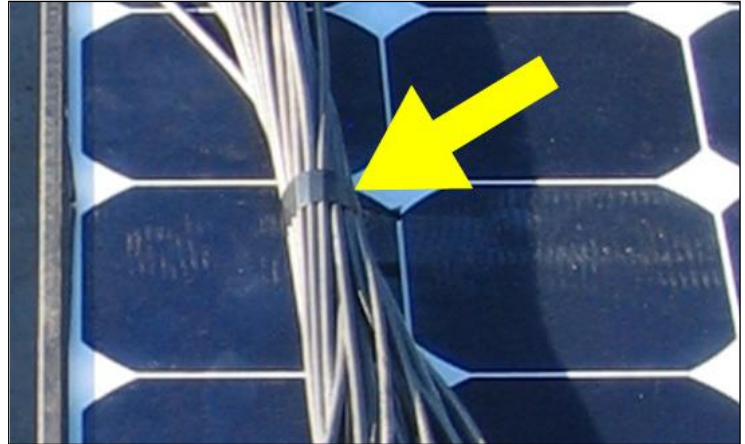

Fig. 73
3. Bundle the N–S homeruns and temporarily wrap the bundle with electrical tape (Fig. 73), to enable you to easily position the homeruns between the modules.